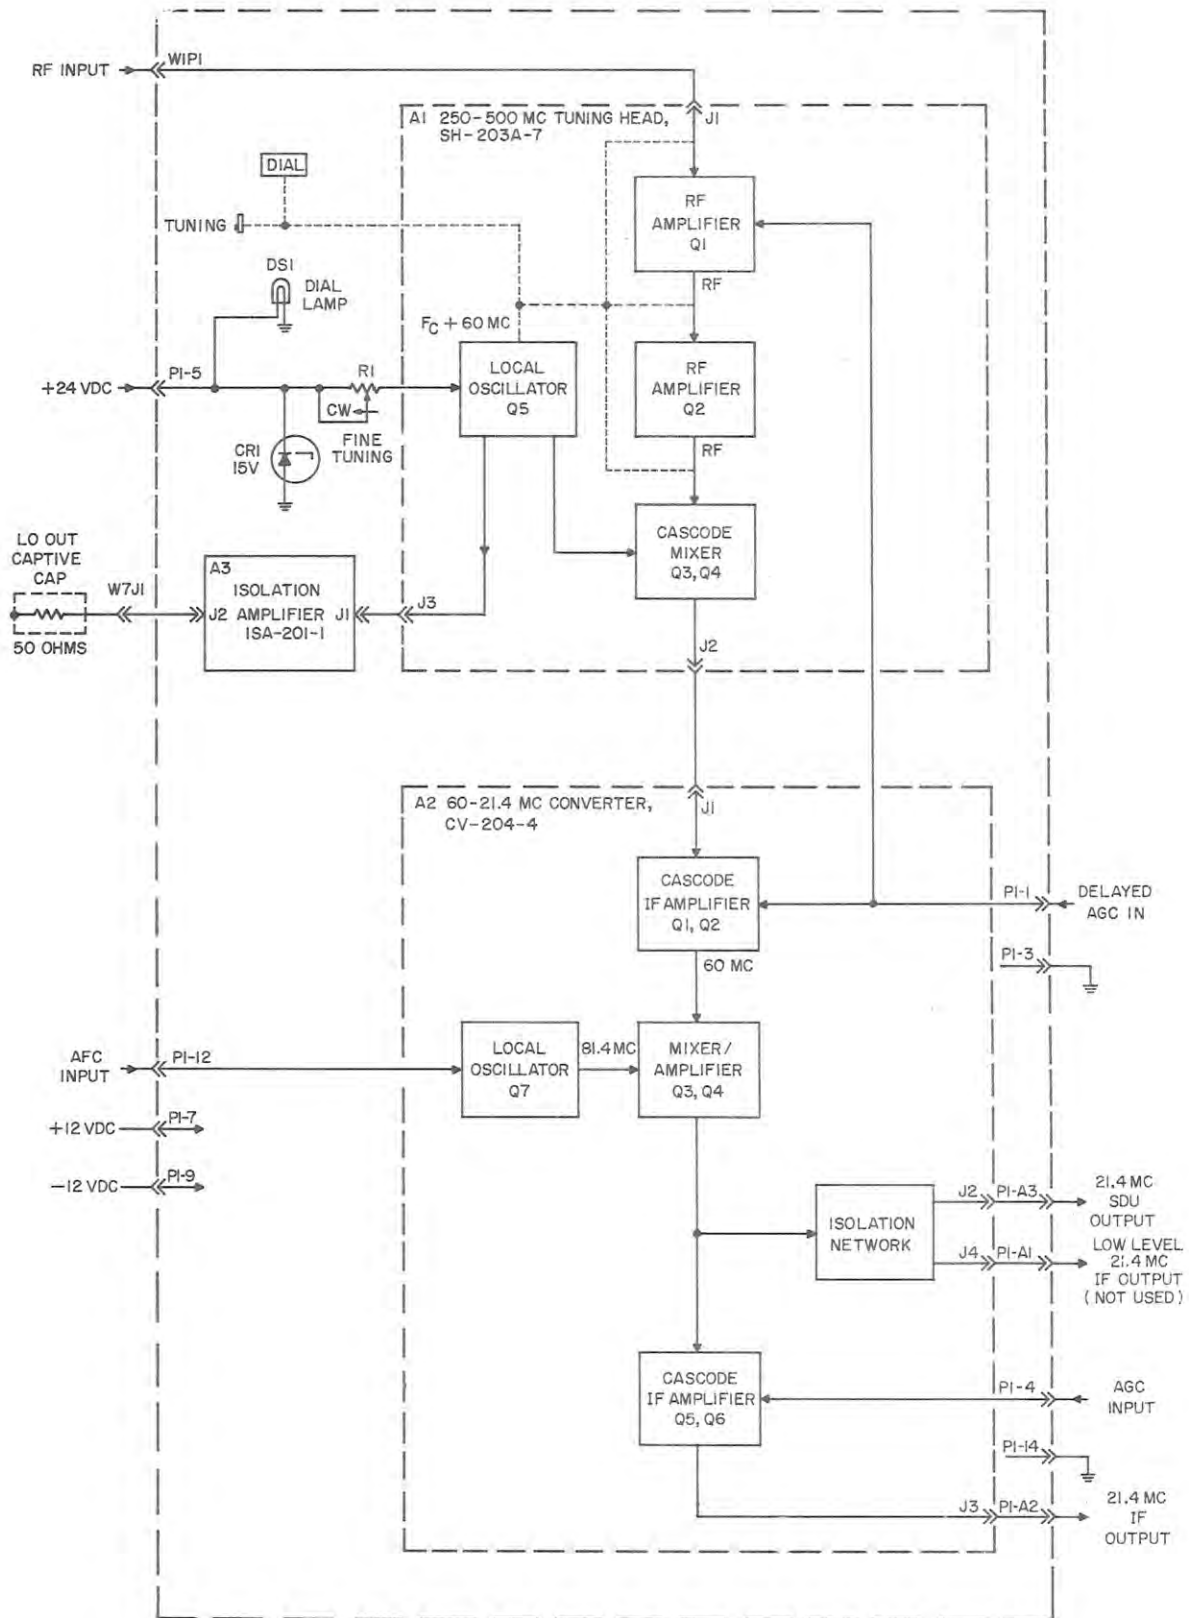

Figure 4-1. 250-500 Mc Plug-in RF Tuner, TN-519/WRR, Functional Block Diagram.
A. RF tuner TN-519/WRR, Figure 4-1